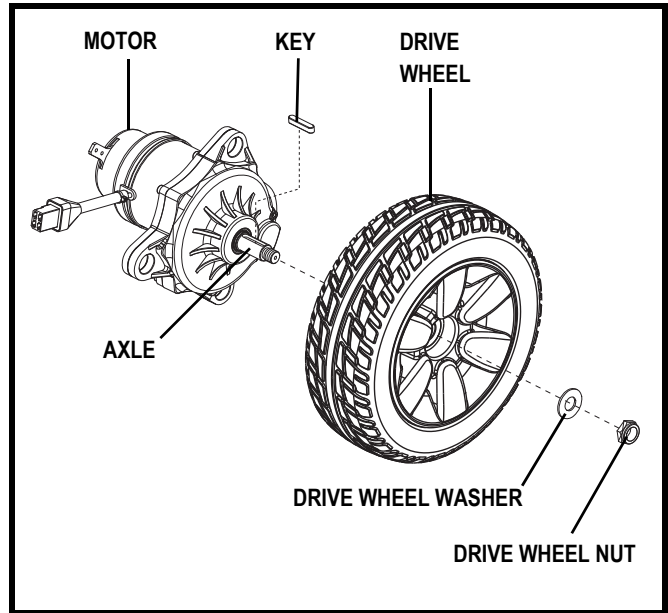

Figure 20. Jazzy Select Elite Drive Wheel Removal
4. Remove the drive wheel nut and washer from the axle. See **figure 20**.
8. Reinstall the drive wheel nut and washer onto the axle and tighten. See **figure 20**.